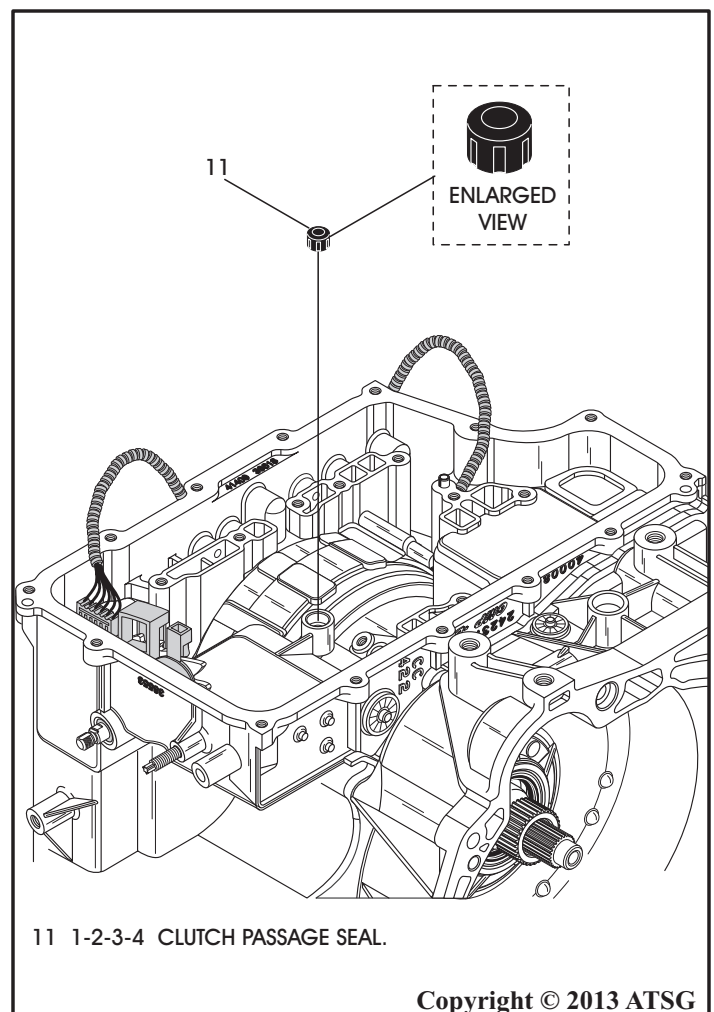

Figure 53
23. Remove and discard the 1-2-3-4 clutch passage seal from the case, as shown in Figure 53.